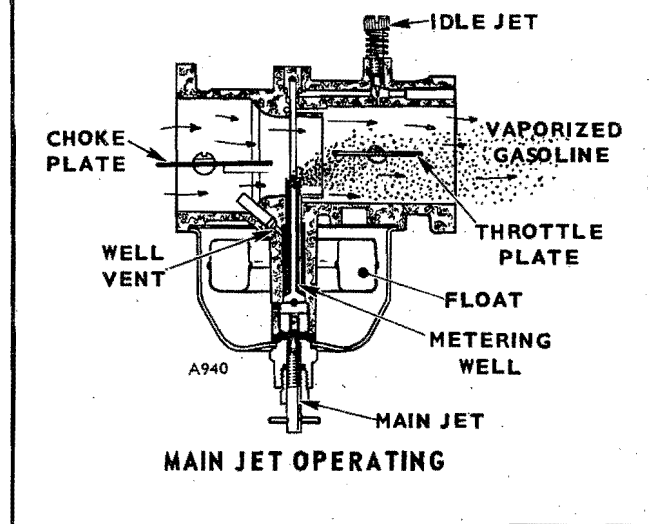

FIGURE 12. CARBURETOR LOAD CIRCUIT
The idle circuit (Figure 11) supplies fuel during no-load operation and for light loads. The throttle plate is nearly closed at no-load, creating high intake manifold vacuum. The pressure difference between the manifold and float chamber causes fuel to flow through the idle circuit. The pressure difference draws fuel up through the hollow center of the idle transfer tube and then through passages in the carburetor body to the idle port, and is controlled by the idle needle. As the throttle is opened to increase power, the idle transfer port is uncovered and additional fuel is added during the transfer from idle to main jet operation. Figure 12 shows the load circuit.
1. Install the throttle shaft and valve, using new screws. Install as shown in Figure 12 with the bevel mated to the carburetor body. On valve plates marked with the "C", install with mark on side toward idle port when viewed from flange end of carburetor. To center the valve, back off the stop screw, close the throttle lever and seat the valve by tapping it with a small screwdriver; then tighten the two screws.